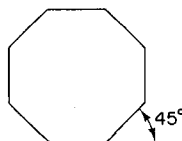
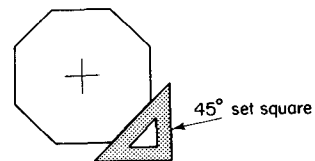

Fig. 3.20
Fig. 3.21
2. THE OCTAGON is an eight-sided polygon (Fig. 3.20) with each of its eight sides equal in length. Octagons are easily constructed by using 45° set squares (Fig. 3.21).